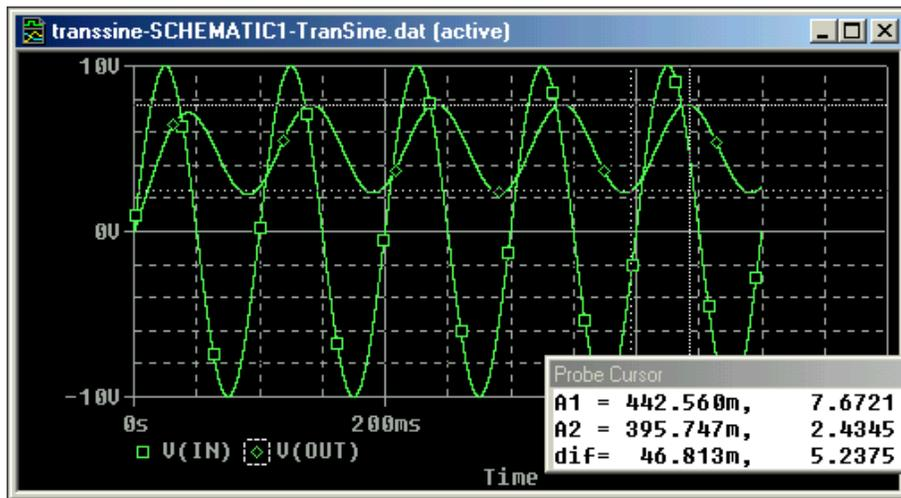

Figure 16: Transient simulation with a sinusoidal input.
9. We used the cursors in Figure 18 to find the 3dB point. The value is 6.49 Hz corresponding to a time constant of 25 ms ( $R1 \parallel R2 \cdot C$ ). At 10 Hz the attenuation of  $V_{out}$  is 11.4db or a factor of 3.72. This corresponds to the value of the amplitude of the output voltage obtained during the transient analysis of Figure 16 above.